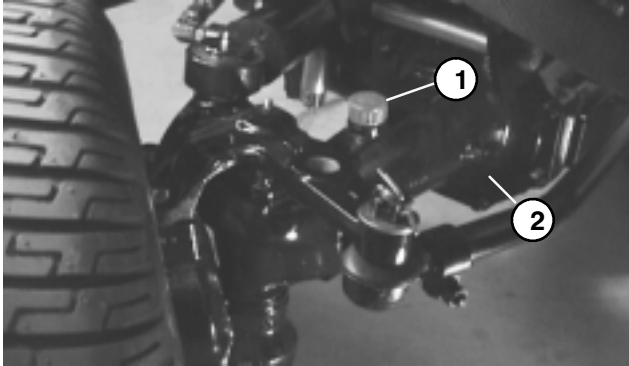

Figure 8
CHECK REAR AXLE LUBRICANT (Fig. 8–9)
2. Clean area around the (3) check plugs, (1) on each end and (1) in the center (Fig. 8).